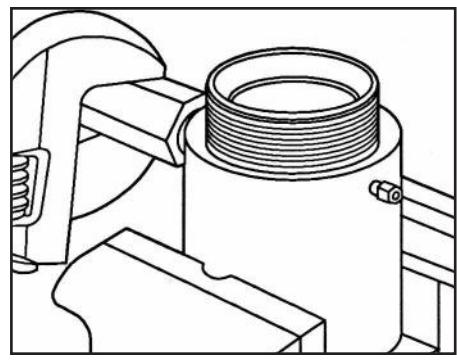

Figure 58
- Clamp the fluid cylinder in a bench vise, and use an adjustable wrench to remove the discharge check valve from the cylinder. (Fig.58)